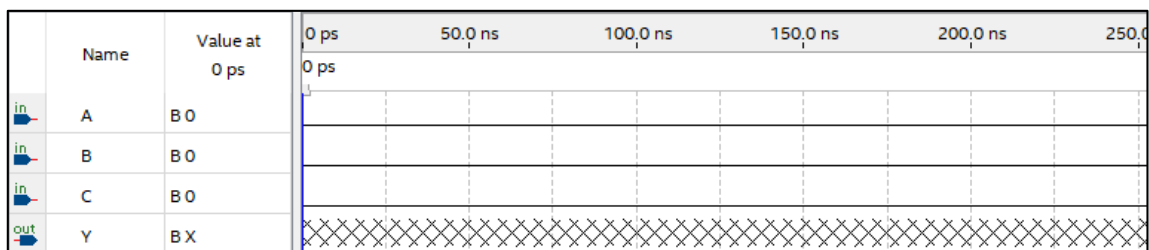

Figure 8: Vwf window with 25 ns grid size
1. Use the magnifying glass to zoom in on the waveform window until you can see 50 ns intervals as seen in the image of Figure 8.
2. Using your mouse (make sure the pointer is selected), click and drag your mouse cursor across 50 ns to 200 ns on input A to select the area. Now select the “1” button on the toolbar (or select “Edit”, “Value”, “Forcing High (1)”) to set this signal to High during this time window.